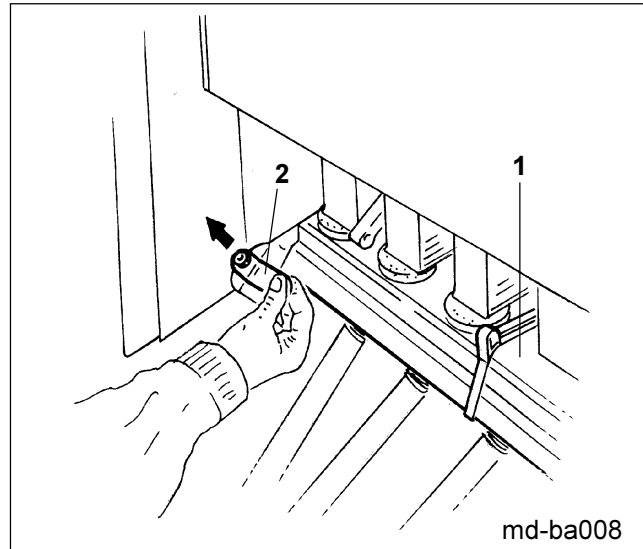
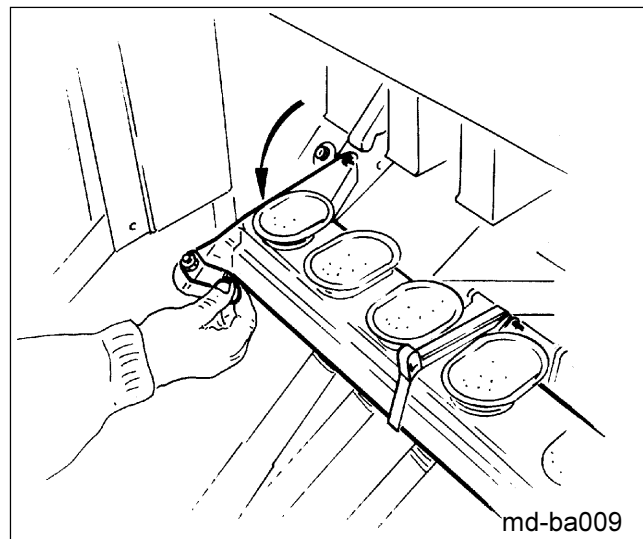

Fig. 9.3
Fig. 9.4
- lower the coulter tube feed rail(s) (Fig. 9.3/1):
Every coulter tube feed rail is equipped with two levers (Fig. 9.3/2). Press them upwards to disengage the rails and then lower the coulter tube feed rail (Fig. 9.4).